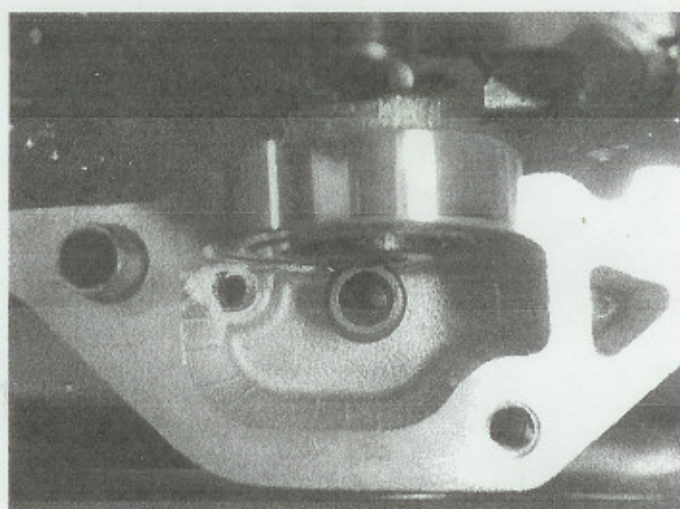

Fig. 7
- Locate the 1/4 x 5/8 set screw. Apply a removable thread-locking compound such as Loc-Tite and insert the screw into the passage until it's flush with the bottom of the oil reservoir (Fig. 7).